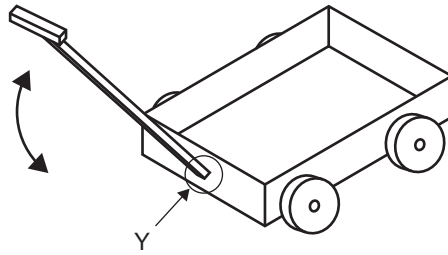

Figure 12
- f. The handle of the pull-along wagon needs to be attached in a way that allows it to move up and down, as shown by the arrow in Figure 12.